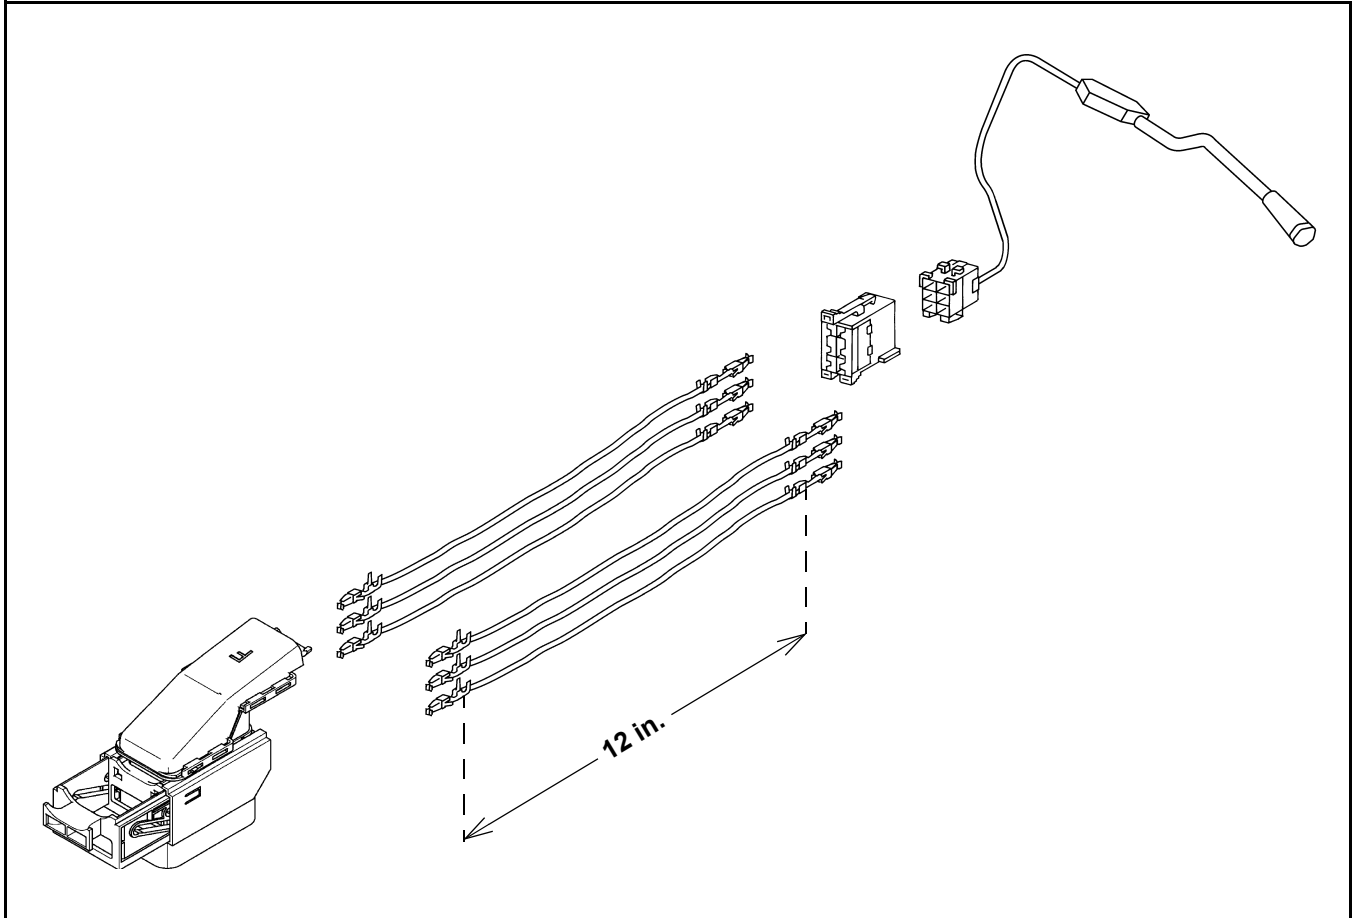

Figure 245 Assembling the Extension Harness to the Engine Control Module
16. Assemble an extension harness with the color-coded wires described in the parts list (Figure 245). Cut one piece out of each wire color, 12 inches long, and strip both ends of wire. Install six terminals, part 05103882AA, to one end of the wires, and six terminals, part 05161275AA, to the other end.